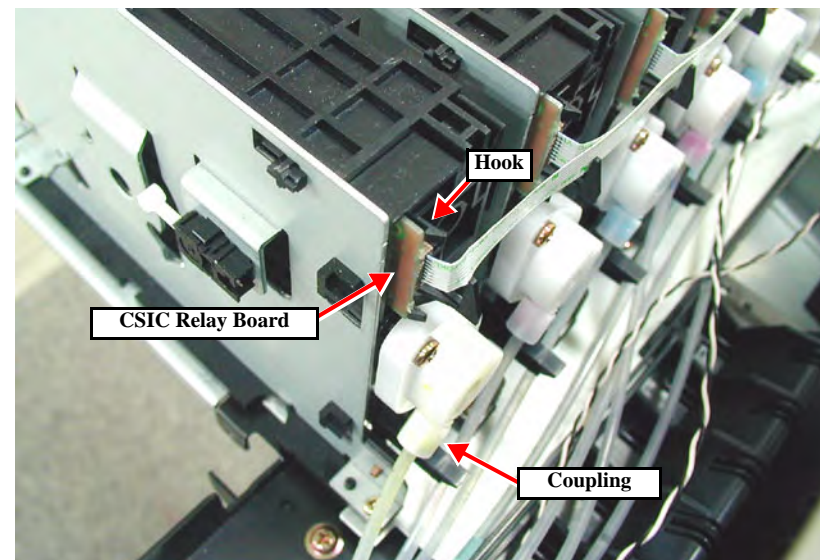

Figure 4-67. CSIC Relay Board Removal
13. Disengage the two hooks on the back of the relevant Ink Holder ASSY and draw out the CSIC Relay Board. (See Figure 4-67)